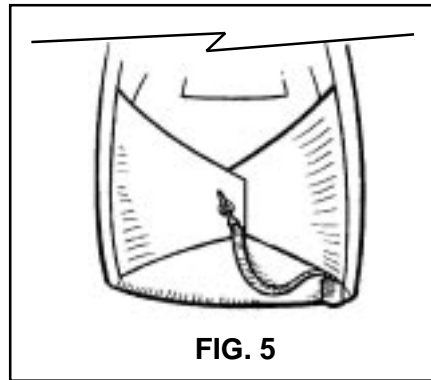

FIG. 5
5. Close the left side flap then the right side flap. Secure the closing loop with the pin (FIG. 5).